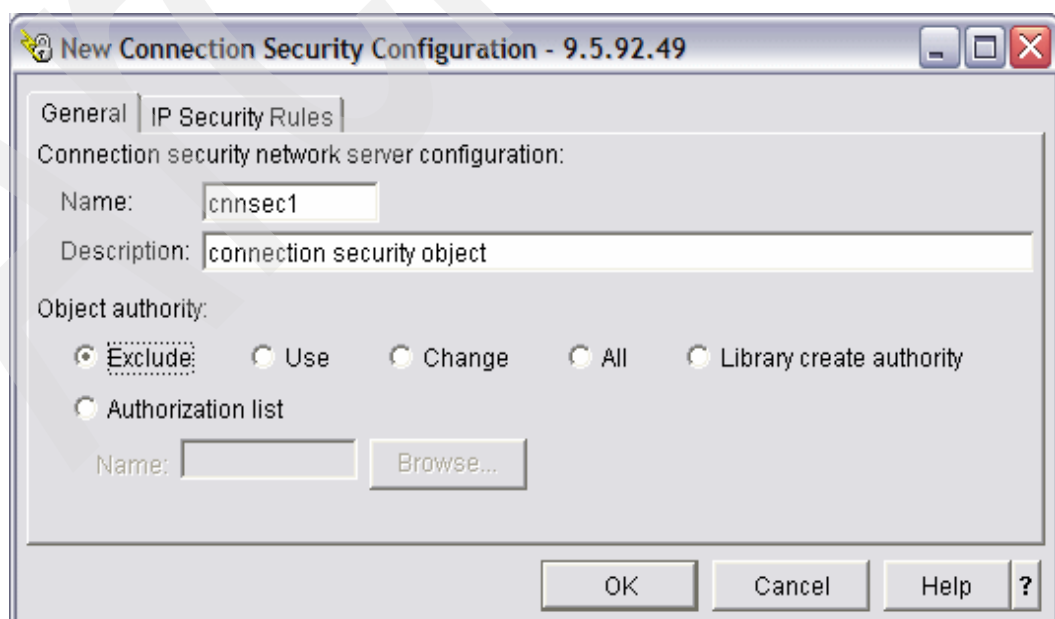

Figure 4-32 Defining a connection security configuration object
- h. Ignore IP Security Rules. See Figure 4-32.